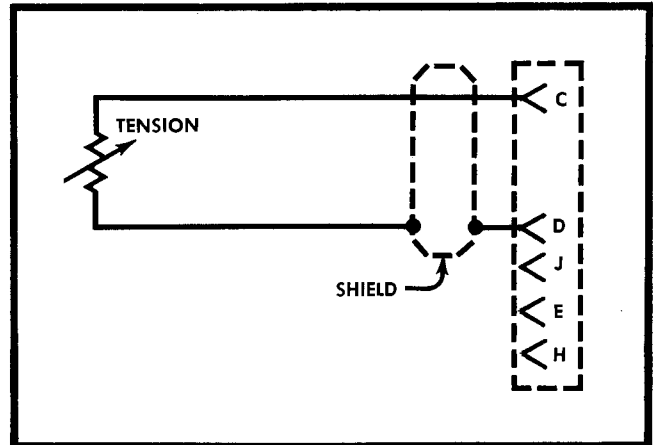

Fig. 2-8. Electrical connections for one external arm using single-conductor shielded (coaxial) cable.
**Single-Conductor Shielded Microphone or Coaxial Cable.** Connections for this type of installation are shown in Fig. 2-8. The capacitance of a single-conductor cable varies from 10 pf/ft to 100 pf/ft depending upon the design. Since all of this cable capacitance is in parallel with one arm of the input bridge, the Type 3C66 CAPACITANCE controls must compensate for this capacitance. If an appreciable length of cable is used, a capacitor with a value approximately equal to the total cable capacitance (within 250 pf) must be added in parallel with the internal plug-in bridge-arm resistor. This brings the circuit within the range of the CAPACITANCE controls. The binding posts should be used for addition of this capacitor. Single-conductor cable should not be used when multiple-conductor cable is available.